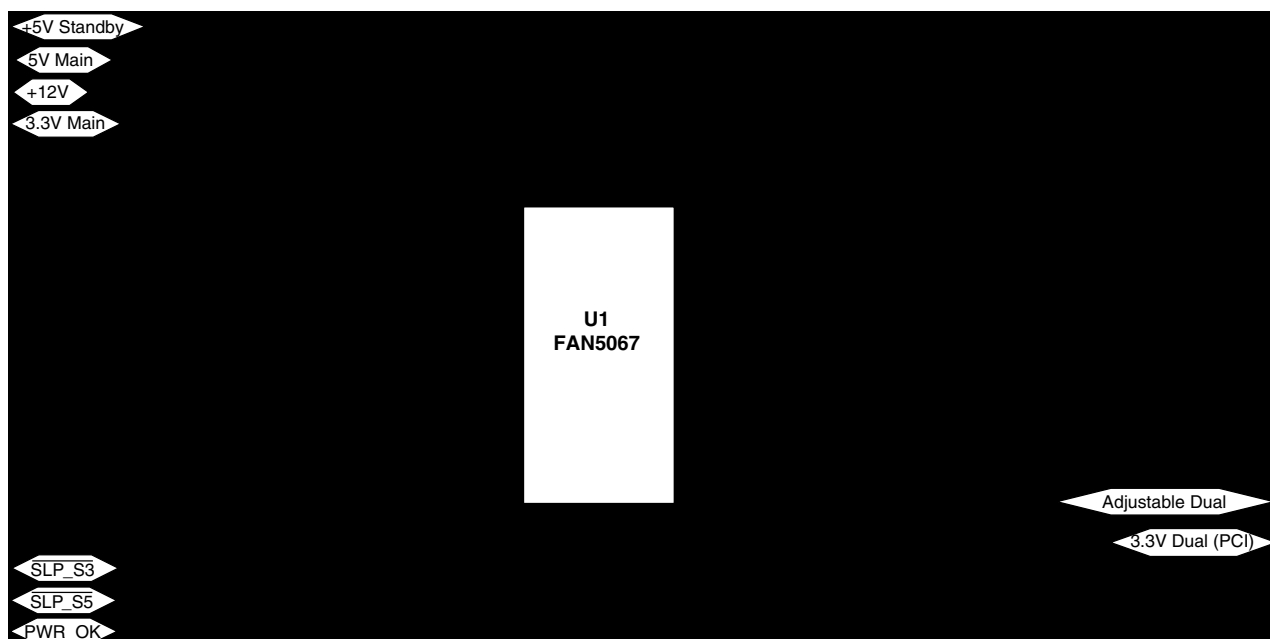

Figure 4. ACPI Selector
($V_{+5VSTBY} = V_{+5VMAIN} = 5V$, $V_{+3.3V} = 3.3V$, $V_{+12V} = 12V$ and $T_A = +25^{\circ}C$ using circuit in Figure 4, unless otherwise noted.)
3.3V dual can be generated by two MOSFETs, one from +3.3V main, the other from +5V standby, as shown in Figure 4. When main power is present, the MOSFET Q1 is turned on as a switch, so that input and output are connected together. When main power is absent, the MOSFET Q2 is controlled by the FAN5067 as a linear regulator, generating a regulated 3.3V from +5V standby. The MOSFET Q1 must be connected as shown in the figures, to avoid back-feed.
Adjustable dual is generated by one external NPN bipolar acting as a linear regulator from +5V main, and one linear regulator internal to the FAN5067 from +5V standby, as shown in Figure 4, and in the block diagram on the front page. When main power is present, the NPN Q3 linear regulates, and when main power is absent, the internal linear regulator is on. Q3 cannot be substituted with a MOSFET. If used in one direction, the MOSFET's body diode would permit back-feed; if used in the other direction, it would short-circuit the linear regulator action.
The output voltage of the Adjustable Dual is set with two resistors as shown in Figure 4, according to the equation.
In main power operation, the FAN5067 is run from the +12V main supply. This supply also provides voltage to the various MOSFET gates. However, during standby, this supply is off. To provide power to the chip and the appropriate gates, the FAN5067 incorporates a free-running charge pump. As shown in Figure 4, and in the block diagram on the front page, a capacitor attached between pins 1 and 2 of the FAN5067 acts as a charge pump with internal diodes. The charge pump output is internally diode or'ed with the 12V input. The 12V input must have a series diode to prevent back-feeding the charge pump to the +12V main when in standby. The 12V input line needs a bypass capacitor for high-frequency noise rejection. If desired, the system may be operated without the 12V or the diode; however, the bypass capacitor must still be present.
Instead of the bipolar transistor shown in Figure 4 for Q3, the linear pass element for the adjustable dual, a MOSFET and schottky diode can be used as shown in Figure 9.